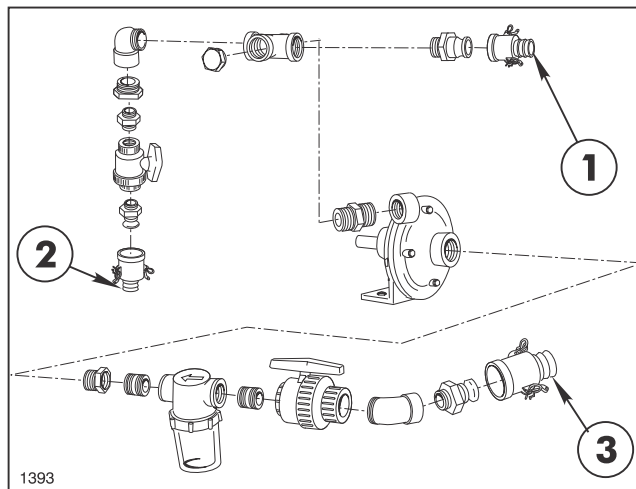

FIG. 5
2. Align the pivot tubes on the Pump Pivot Plate with those on the Pivot Mounting Plate. Insert the two (2) clevis pins and secure with two (2) hairpin cotters.
3. Secure the Centrifugal Pump in a vise. Apply thread sealer and install the fittings to connect the Suction, Supply, and Agitator Hoses to the Pump as shown in FIG. 5.